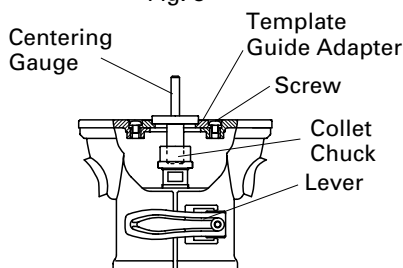

Fig. 9
- (2) Insert the centering gauge through the hole in the template guide adapter and into the collet chuck. (Fig. 9)
- (3) Tighten the collet chuck by hand.
- (4) Tighten the lever. (This aligns the center of the template guide adapter.)
- (5) Tighten the template guide adapter screws, and pull out the centering gauge.